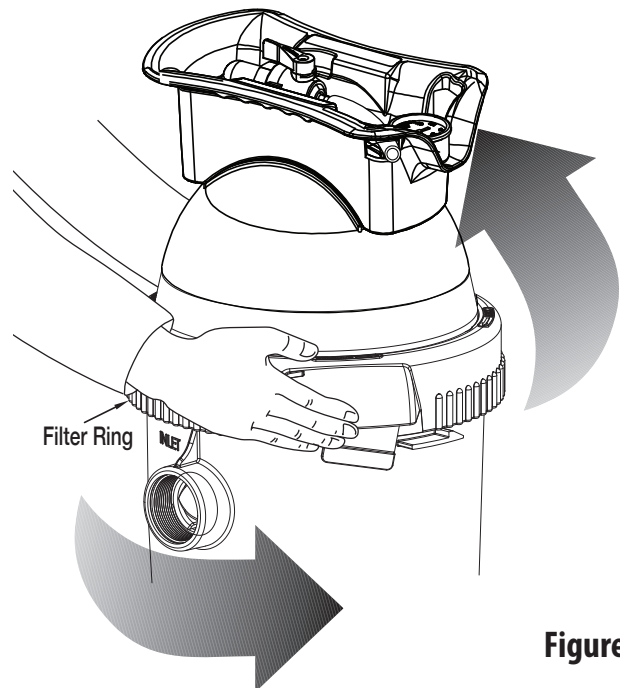

Figure 3
1. Securely lock the Pro-Clean Ring in place by rotating it **CLOCKWISE** until it “clicks” past the safety latch (see Figure 3). Stop turning as soon as the ring clicks past the latch. The ring may feel slightly loose, but it will tighten up when the pump is on and the filter is under pressure.
- C. Rotate the filter ring clockwise until it locks behind the safety latch (see Figure 3).
- A. Press the safety latch (below the ring) toward the tank to release it (see Figure 3).